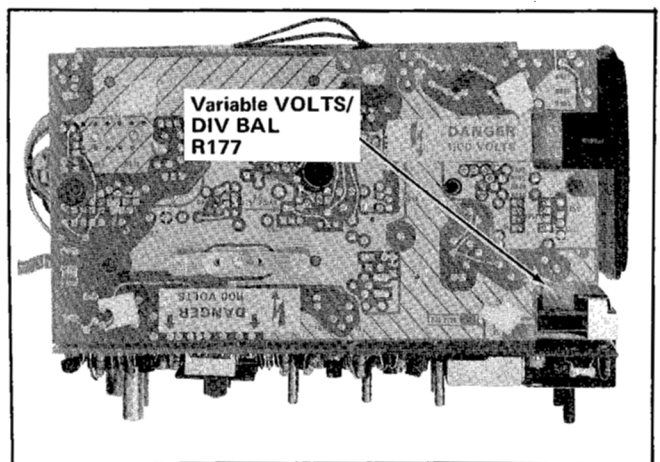

Fig. 5-5. Location of the VOLTS/DIV Var Bal adjustments.
- Adjust the VAR VOLTS/DIV BAL adjustment for a trace shift for no more than 0.1 division. See Fig. 5-5.